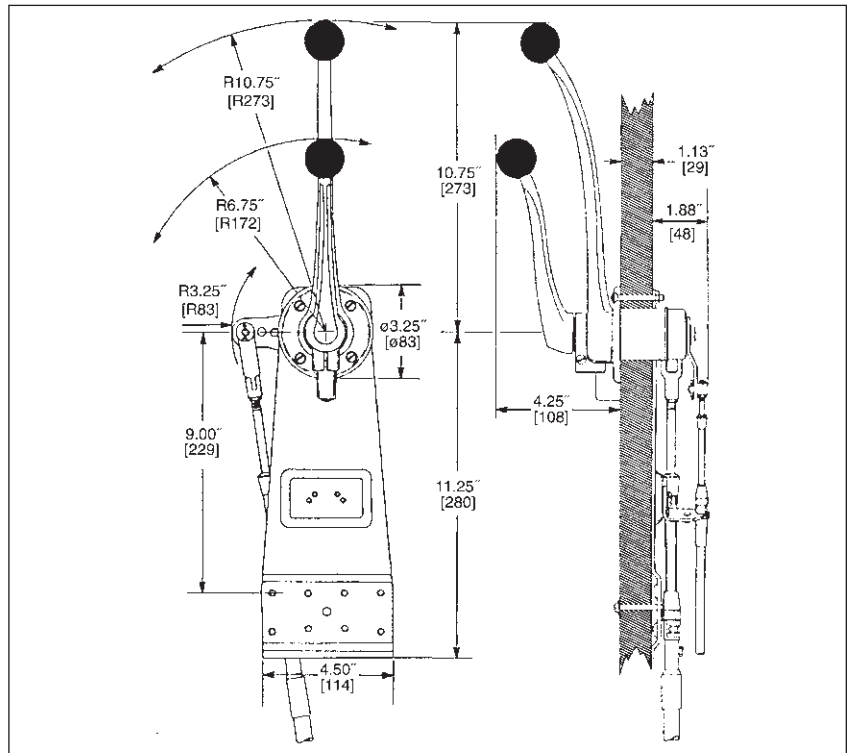

Figure 1.
**STEP 1.** Adequate clearance must be provided for the Control Head Hand Levers to move through their full ranges (approximately 90 degrees). See Figure 1.